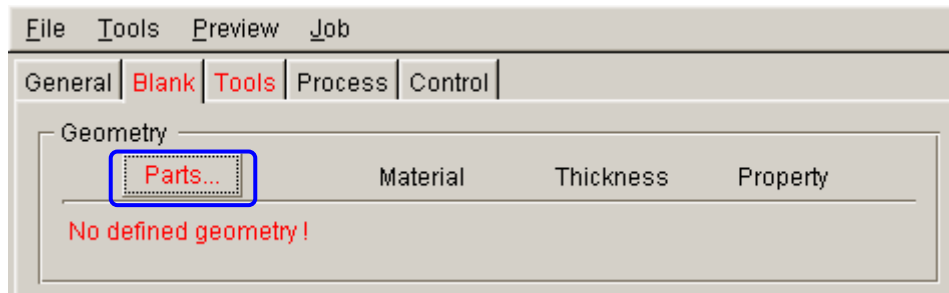

Figure 1.7 Define blank
- Then, click **Parts...** button from **Geometry** field in the blank definition interface. See Figure 1.7.